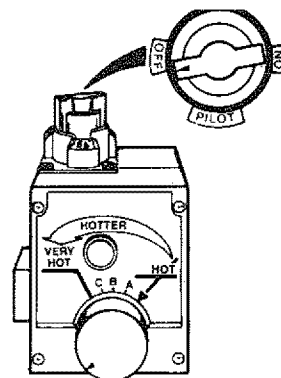
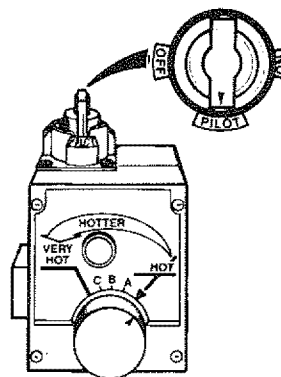
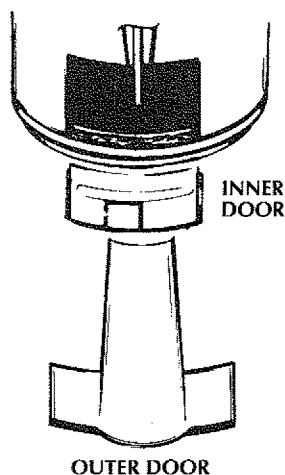

Figure 6
Figure 7
Figure 9
4. Turn gas control knob clockwise  to "OFF" position. Knob cannot be turned from "PILOT" to "OFF" unless knob is depressed slightly. **DO NOT FORCE.** (Figure 6)
5. Wait five (5) minutes to clear out any gas. If you then smell gas, STOP! Follow "B" in the safety information above on this label. If you don't smell gas, go to the next step.
6. Remove (or open) inner door located below the gas control unit. (Figure 9)
8. If you don't smell gas, turn knob on gas control counter clockwise  to "PILOT" position. (Figure 7)
9. Push in control knob all the way and hold down. Immediately light the pilot with a match. Continue to hold control knob in for about one (1) minute after the pilot is lit. Release knob and it will pop back up. Pilot should remain lit. If it goes out, repeat steps 3 through 8.
- If the pilot will not stay lit after several tries, depress and turn the gas control knob clockwise  to "OFF" and call your service technician or gas supplier. (Figure 6)
10. Replace (or close) inner door. Replace outer door if door does not cover gas control on/off knob or temperature adjustment knob. (Figure 9)
2. Turn gas control knob clockwise  to "OFF" position. Knob cannot be turned from "PILOT" to "OFF" unless knob is depressed slightly. **DO NOT FORCE.** (Figure 6)